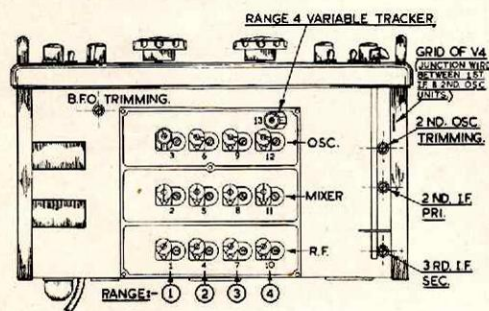

Fig. 3
Leaving the controls and connections undisturbed, the input frequency should be changed to 1620 Kc/s. and the second oscillator adjusted, by moving the core in the V4 screening can (see Fig. 3), until output is maximum. Because of the slight loss in conversion, a greater input (by some 2 or 3 db) will be required to give 50 milliwatts output. The change to 85 Kc/s. can be obtained with the oscillator on either the high or the low side of 1620 Kc/s. and two positions of oscillator core will give output — the lower frequency position, with the core furthest in, is the correct one.
With the BFO switch at "off," a modulated signal should be applied and tuned in accurately on the receiver. The modulation is switched off, the BFO switched on and, with the pitch control at half-mesh (white spot at top), the core in the BFO unit (see Fig. 3) is set to give zero beat.
The controls remain as before but with the RF gain also turned to maximum. Should it be found necessary to correct discrepancies in the scale calibration, the output from a Crystal Frequency Standard should be applied to the aerial terminals (the calibration of most Signal Generators is not accurate enough). Adjustment is then made to the cores and trimmers appropriate to each range, in the oscillator section of the coil box (see Fig. 3). Checks and adjustments should be made at the frequencies given below, using the TRIMMER CONDENSER at the higher frequency end of the scale and the CORE at the lower frequency end. The BFO should be switched on for these tests, with the pitch control at "12 o'clock." The
*Accessible under the chassis (see Fig. 3).